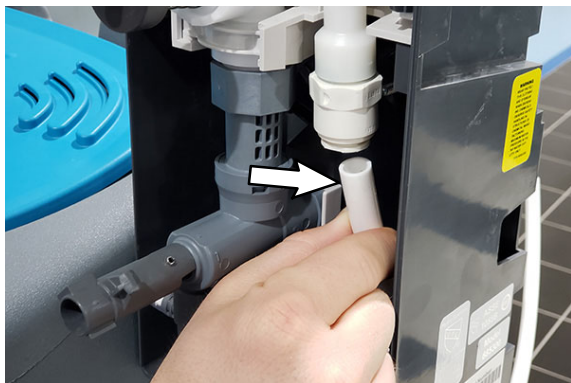

FIG. 22
20. Connect the other end of the water supply line (Fig. 20) to the fitting inside the dispenser assembly. (Fig. 22)